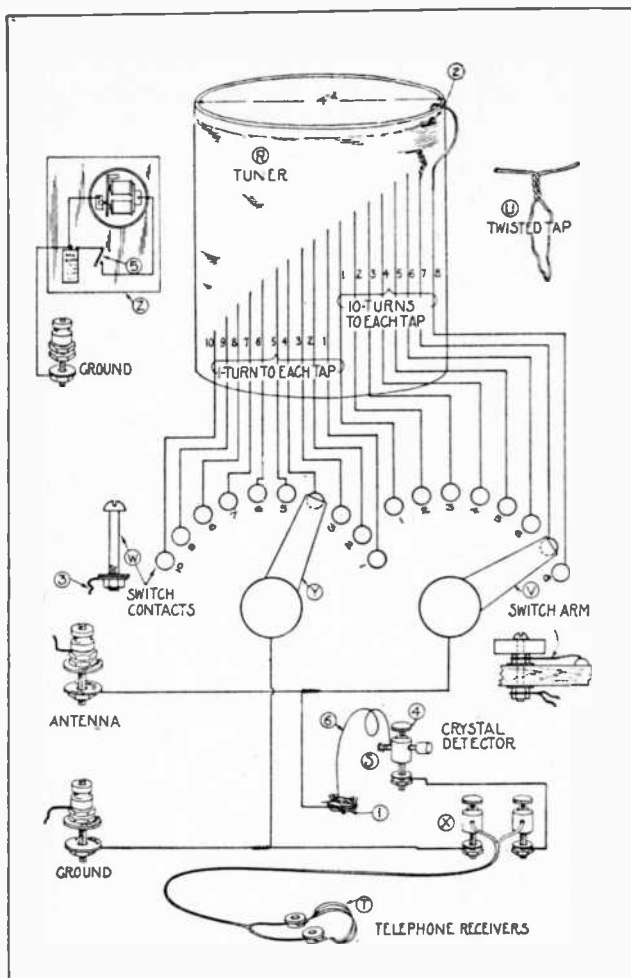

Fig. 3.—Constructional details of the simple radio receiving set designed by the U. S. Bureau of Standards for the use of laymen.
*Tuner (R, Fig. 3)*—This is a piece of cardboard or other non-metallic tubing with turns of copper wire wound around it. The cardboard tubing may be an oatmeal box. Its construction is described in detail below.
*Crystal Detector (S, Fig. 3)*—The construction of a crystal detector may be of very simple design and quite satisfactory. The crystal, as it is ordinarily purchased, may be unmounted or mounted in a little block of metal. For mechanical reasons the mounted type may be more satisfactory, but that is of no great consequence. It is very important, however, that a very good tested crystal be used. It is probable also that a galena crystal will be more satisfactory to the beginner.
The crystal detector may be made up of a tested crystal, three wood screws, short pieces of copper wire, a nail, set screw type of binding post, and a wood knob or cork. The tested crystal is held in position on the wood base by three brass wood-screws as shown at I Fig. 3. A bare copper wire may be wrapped tightly around the three brass screws for contact. The assembling of the rest of the crystal detector is quite clearly shown in Fig. 3.
*Phone (T, Fig. 3)*—It is desirable to use a pair of telephone receivers connected by a head band, usually called a double telephone headset. The telephone receivers may be any of the standard commercial makes having a resistance of between 2000 and 3000 ohms. The double telephone receivers will cost more than all the other parts of the station combined but it is desirable to get them, especially if one plans to improve his receiving set later. If one does not care to invest in a set of double telephone receivers a single telephone receiver with a head band may be used; it gives results somewhat less satisfactory.
*Tuner*—See R. Fig. 3. Having supplied one's self with a piece of cardboard tubing 4 inches in diameter and about  $\frac{1}{2}$  pound of No. 24 (or No. 26) double cotton covered copper wire, one is ready to start the winding of the tuner. Punch two holes in the tube about  $\frac{1}{2}$  inch from one end as shown at 2 on Fig. 3. Weave the wire through these holes in such a way that the end of the wire will be quite firmly anchored, leaving about 12 inches of the wire free for connections. Start with the remainder of the wire to wrap the several turns in a single layer about the tube, tightly and closely together. After ten complete turns have been wound on the tube hold those turns snugly while a tap is being taken off. This tap is made by making a 6 inch loop of the wire and twisting it together at such a place that it will be slightly staggered from the first tap. This method of taking off taps is shown quite clearly at U, Fig. 3. Proceed in this manner until six twisted taps have been taken off at every ten turns. After these first seventy turns have been wound on the tube then take off a 6 inch twisted tap for every succeeding single turn until ten additional turns have been wound on the tube. After winding the last turn of wire anchor the end by weaving it through two holes punched in the tube much as was done at the start, leaving about 12 inches of wire free for connecting. It is to be understood that each of the eighteen taps is slightly staggered from the one just above, so that the several taps will not be bunched along one line on the cardboard tube. See Fig. 3. It would be advisable, after winding the tuner as just described, to dip the tuner in hot paraffin. This will help to exclude moisture.
holes for the binding posts, switch arms and switch contacts may first be laid out and drilled. The "antenna" and "ground" binding posts may be ordinary  $\frac{1}{8}$  inch brass bolts of sufficient length and supplied with three nuts and two washers. The first nut binds the bolt to the panel, the second nut holds one of the short pieces of stiff wire, while the third nut holds the antenna or ground wire as the case may be. The switch arm with knob shown at V, Fig. 3, may be purchased in the assembled form or it may be constructed from a thin slice cut from a broom handle and a bolt of sufficient length equipped with four nuts and two washers together with a narrow strip of thin brass somewhat as shown. The switch contacts (W, Fig. 3) may be of the regular type furnished for this purpose or they may be brass bolts equipped with one nut and one washer each or they may even be nails driven through the panel with an individual tap fastened under the head or soldered to the projection of the nail through the panel. The switch contacts should be just close enough that the switch arm will not drop between the contacts but also far enough apart that the switch arm can be set so as to touch only one contact at a time.
The telephone binding post should preferably be of the set screw type as shown as X, Fig. 3.
Having constructed the several parts just mentioned and mounted them on the wood base, one is ready to connect the several taps to the switch contacts and attach the other necessary wires. Scrape the cotton insulation from the loop ends of the sixteen twisted taps as well as from the ends of the two single wire taps coming from the first and last turns. Fasten the bare ends of these wires to the proper switch contacts as shown by the corresponding numbers in Fig. 3. One should be careful not to cut or break any of the looped taps. It would be preferable to fasten the connecting wires to the switch contacts by binding them between the washer and the nut as shown at 3, Fig. 3. A wire is run from the back of the binding
post marked "ground" (Fig. 3) to the back of the left-hand switch-arm bolt (Y), thence to underneath the left-hand binding post marked "phones." A wire is then run from underneath the right-hand binding post marked "phones" to underneath the binding post (4, Fig. 3), which forms a part of the crystal detector. A piece of No. 24 bare copper wire about  $2\frac{1}{2}$  inches long, one end of which is twisted tightly around the nail (the nail passing through
binding post 4) the other end of which rests gently by its own weight on the crystal (1). The bare copper wire which was wrapped tightly around the three brass wood-screws holding the crystal in place is led to and fastened at the rear of the right-hand switch-arm bolt (V), thence to the upper left-hand binding post marked "antenna." As much as possible of this wiring is shown in Fig. 3.
*The Test Buzzer*—(Z, Fig. 3)—As mentioned previously, it is easy to find the more sensitive spots on the crystal by using a test buzzer. The test buzzer is used as a miniature local transmitting set. When connected to the receiving set as shown at Z, Fig. 3, the current produced by the buzzer will be converted into sound by the
telephone receivers and the crystal, the loudness of the sound depending on what part of the crystal is in contact with the fine wire. To find the most sensitive spot connect the test buzzer to the receiving set as directed, close the switch (5, Fig. 3) (and if necessary adjust the buzzer armature so that a clear note is emitted by the buzzer), set the right-hand switch arm on contact point No. 8, fasten the telephone receivers to the binding posts marked "phones," loose the set screw of the binding post slightly and change the position of the fine wire (6, Fig. 3) to several positions of contact with the crystal until the loudest sound is heard in the phones, then tighten the binding post set screw (4) slightly.